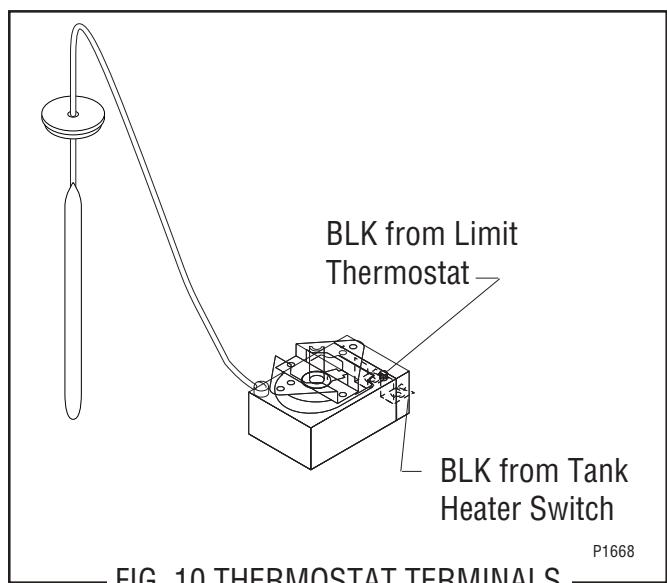

FIG. 10 THERMOSTAT TERMINALS
11. Refer to Fig. 10 and reconnect the wires.